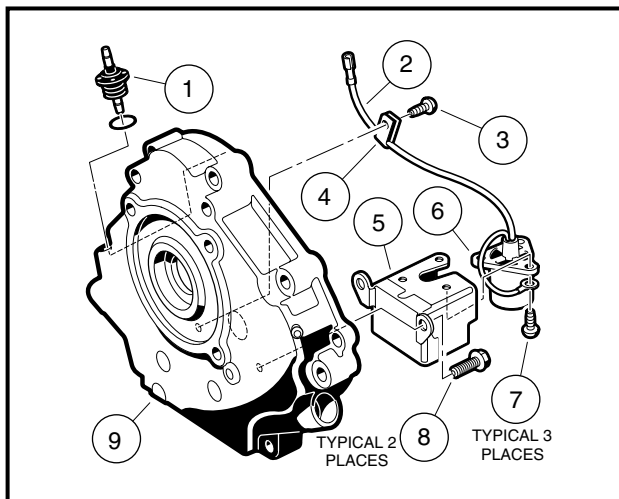

Figure 13-44 Oil Level Sensor
2. Disconnect the oil level sensor wire (2) from the cord connection (1) (**Figure 13-44, Page 13-24**).
3. Remove the two mounting screws (8) from inside of the crankcase cover and remove the oil level sensor and bracket.
1. If the oil level sensor was removed from the bracket, install sensor (6) into bracket (5) and secure with three screws (7) and tighten to 17 in-lb (1.9 N·m) (**Figure 13-44, Page 13-24**).
2. Position the sensor and bracket on inside of crankcase and install two mounting screws (8).
3. Connect sensor wire (2) to cord connector (1) (**Figure 13-44, Page 13-24**).
4. Install screw (3) through wire clamp and into crankcase cover. Tighten to 30 in-lb (3.4 N·m).